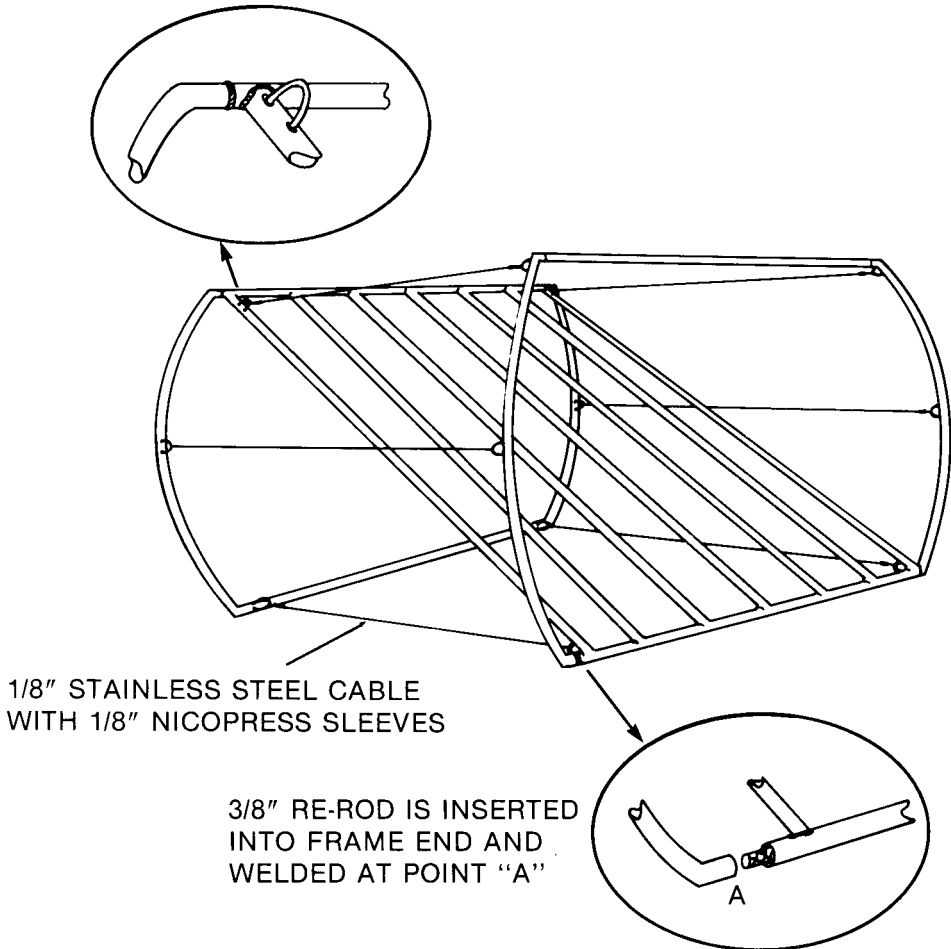

FIGURE 4. COMPLETED STEEL FRAME
1. Connect the grid deflector to the end frames by inserting the 3/4 in. of exposed re-rod at each end of the grid deflector into the 1-1/2-in. nipples on the end frames. The frames and deflector grid should be connected so that when in the upright grid position, the half links are positioned as in figure 4.
2. Weld the re-rod to the end frames at the points indicated in figure 4. The reinforcement rod should not be welded to the deflector grid and should rotate freely inside the top and bottom bars of the grid.
- a. Cut six (6) 48-in. lengths of 1/8-in. stainless steel cable.
- b. Brace the device frame in an upright position using three (3) 36-in. sections of 3/8-in. galvanized pipe or other material between the front and back hoop. Secure the braces in place using twine.
- d. Shackle six (6) cables to the welded half links on one hoop.